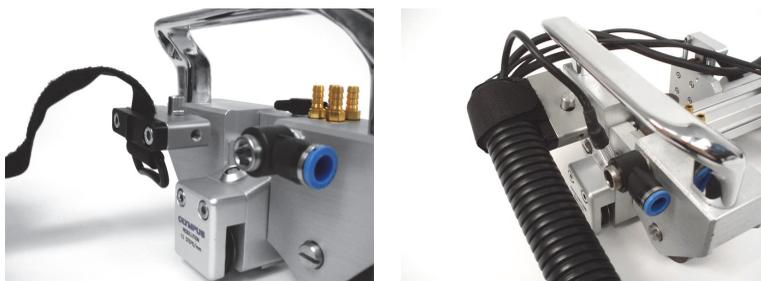

Figure 2-9 Loosened strap (*left*) and tightened strap (*right*)
2. Loosen the strap, wrap it around the umbilical cable, then reinsert the strap into the buckle and tighten it (see Figure 2-9 on page 25).